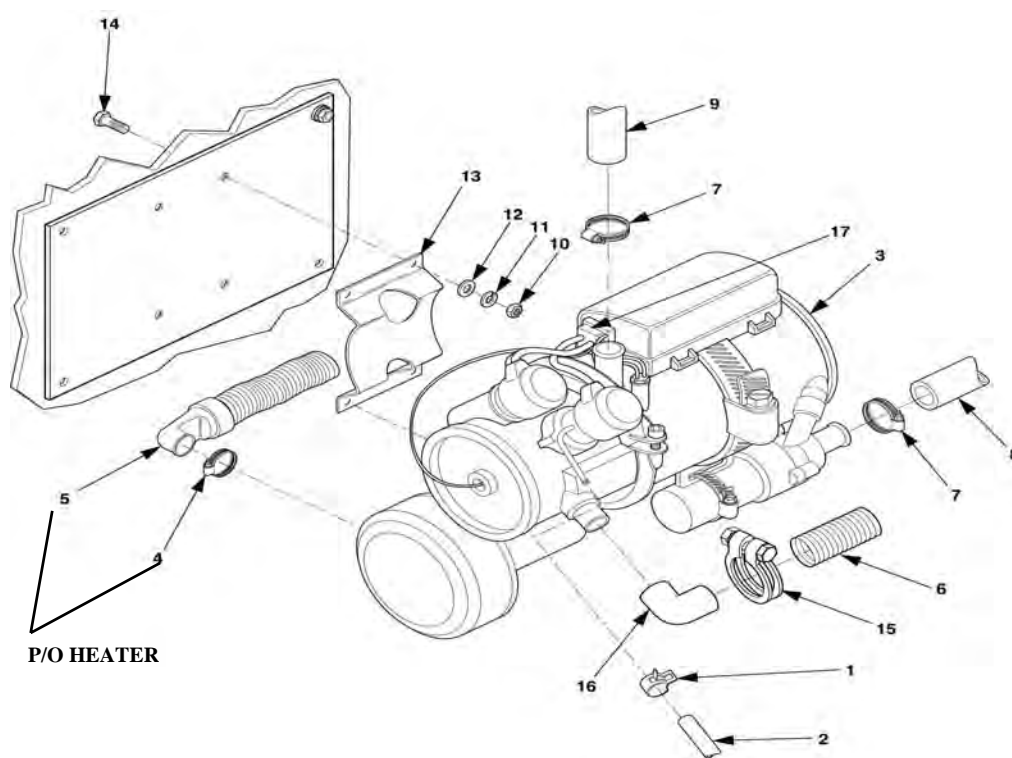

Figure 4-21. Heater Assembly Maintenance
3. Disconnect fuel clamp (1), Figure 4-21, and fuel line (2) from heater and drain any fuel from hose into a suitable container.
4. Disconnect wiring harness connector (17) from heater.
5. Remove screw clamp (15), elbow (16), and exhaust hose (6) from heater (3).
6. Position a suitable container under heater to catch coolant from hoses, and loosen screw clamps (7) to disconnect coolant inlet hose (8) and outlet hose (9) from heater (3).
7. Remove nuts (10), lockwasher (11), flatwasher (12), bolts (14), and heater (3) with mounting plate (13) from bulkhead housing.